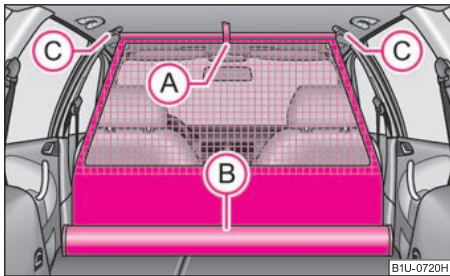

Fig. 82 Pull out net partition
- Pull the net partition at the plate (A) out of the housing (B) ⇒ fig. 82.
- Insert the cross rod into the mount (C) first on the one side and push the cross rod forward.
- In the same way, fix the cross rod to the other side of the vehicle, mount (C).